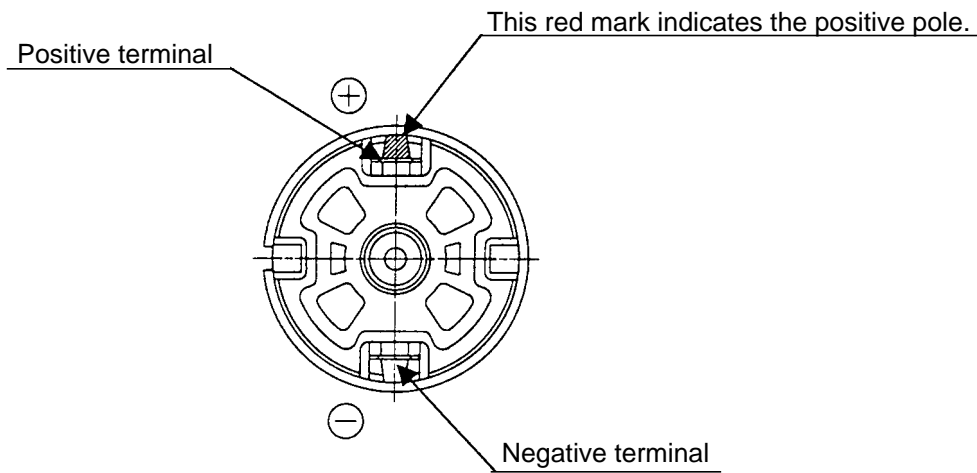

Fig. 5
(2) When soldering Internal Wires (A) [9] (Red) and [10] (Black) onto the Motor [8], be very careful to ensure correct motor polarity. As illustrated in Fig. 5, there is a red mark close to the terminal which indicates the positive pole.